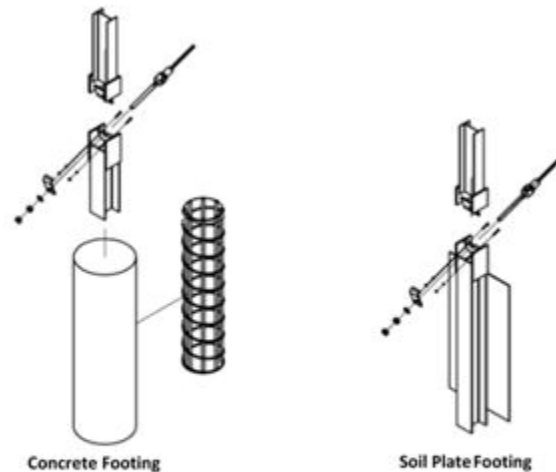

Figure 3
1. Lay out the three (3) CRP footings.
3. Fabricate a rebar cage in accordance with project/shop drawing requirements. A standard spiral rebar cage that may be applicable is PN-33916B (See Figure 3).
4. Place the rebar cage in the footing hole, ensuring a minimum of 3" [75 mm] of concrete surrounds the cage on all sides and the cage is approximately 3" [75 mm] from the top of the footing (finished grade). Place the Bottom CRP in the center of the spiral rebar cage, ensuring the top of the post is no more than 4" [100 mm] above the finished grade. See Figure 3 for the orientation of the post.
The Bottom CRP with Soil Plate assembly, size based on soil conditions, can be driven or placed in an augured hole. The soil plate can be either welded or bolted to the bottom CRP (See Figure 3).
- A. Lay out the three (3) precut cables. The right threaded end of the cables will be attached to the CRP. The CRP 1 cable (PN-5817G) starts at CRP 1 (post location 1) and is placed on the front side (traffic side) of the line terminal posts; the CRP 2 cable (PN-5818G) starts at CRP 2 (post location 2) and is placed on the back side (away from traffic) of the line terminal posts; and the CRP 3 cable (PN-5819G) starts at CRP 3 (post location 3) and is placed on the front side (traffic side) of the line terminal posts.
- C. Place the CRP Cable Bracket (PN-33909G) on the threaded end. The angle end of the bracket is placed up (See Figure 3).
- E. Perform Steps B-D for the other two (2) cables.